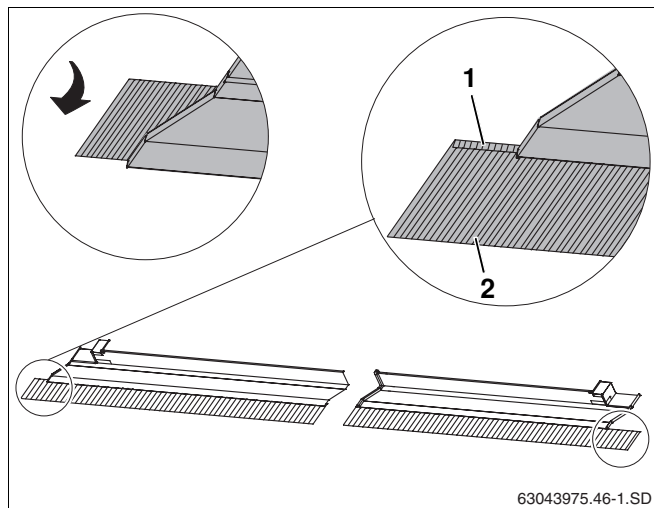

Fig. 41 Laying flashing
- Bend flashing for all facing collectors towards the front (Fig. 41, **Item 2**).
- Likewise, lay the ends of the upper outer facing collectors (Fig. 41, **Item 1**) towards the front.